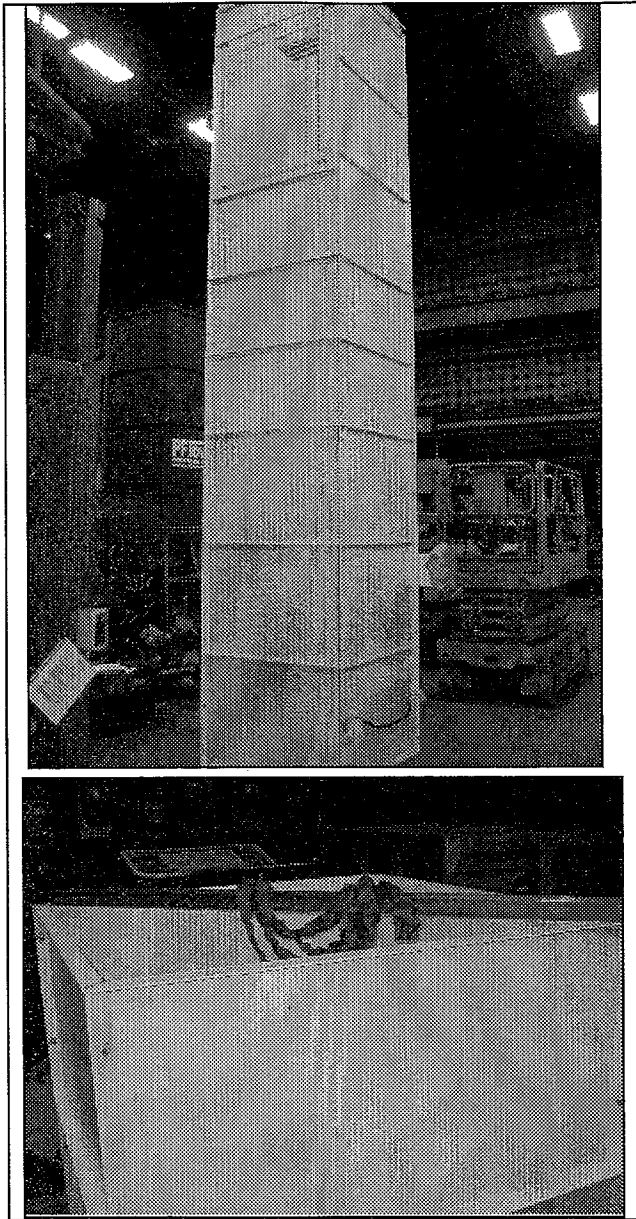

Figure 1
1. Remove bottom section (contains motor and carriage) from skid by using 4" channel bolted to top as lifting point. Move to location in plant, orientate gate opening according to general arrangement print. See Figure 1.